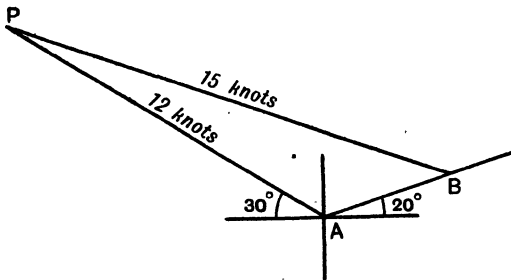

FIG. 105. DIAGRAM FOR EXAMPLE 4
4. Two ships A and B sail from a port at 9 a.m. A sails at 12 knots. At 10 a.m., the captain of A sees the port, W. 30° N., and sees the other ship, B, in a direction E. 20° N. Fig. 105. What is the distance of B from A if B's speed is 15 knots? (1 knot is a speed of 1 sea mile per hour.)